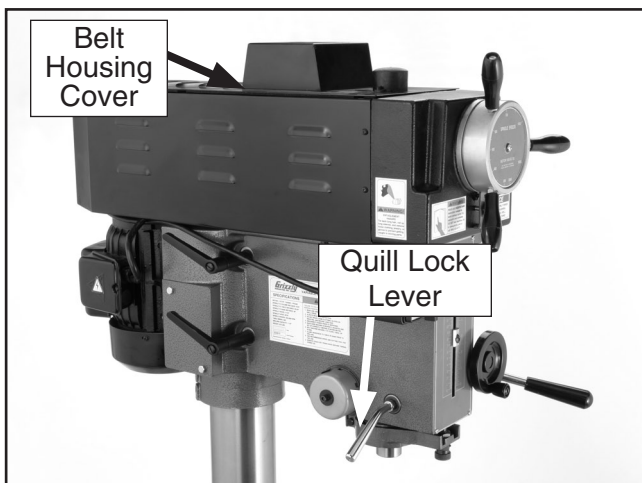

Figure 21. Belt housing cover.
2. Use a 3mm hex wrench to remove the belt housing cover (see **Figure 21**).